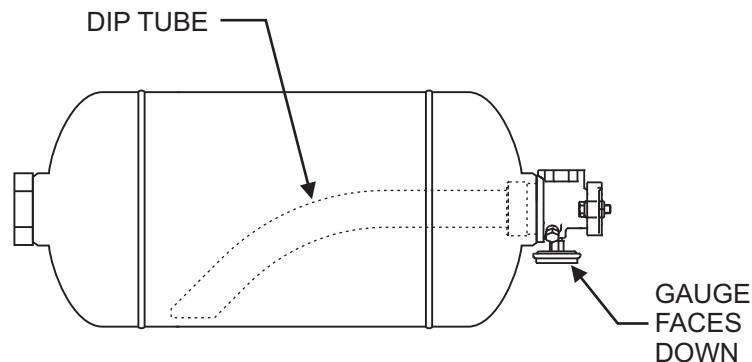

Figure 4-1. KVS-25H Horizontal Mounting
2. If KVS cylinder is to be mounted horizontally, mount in bracket with gauge facing downward only. (see Figure 4-1)